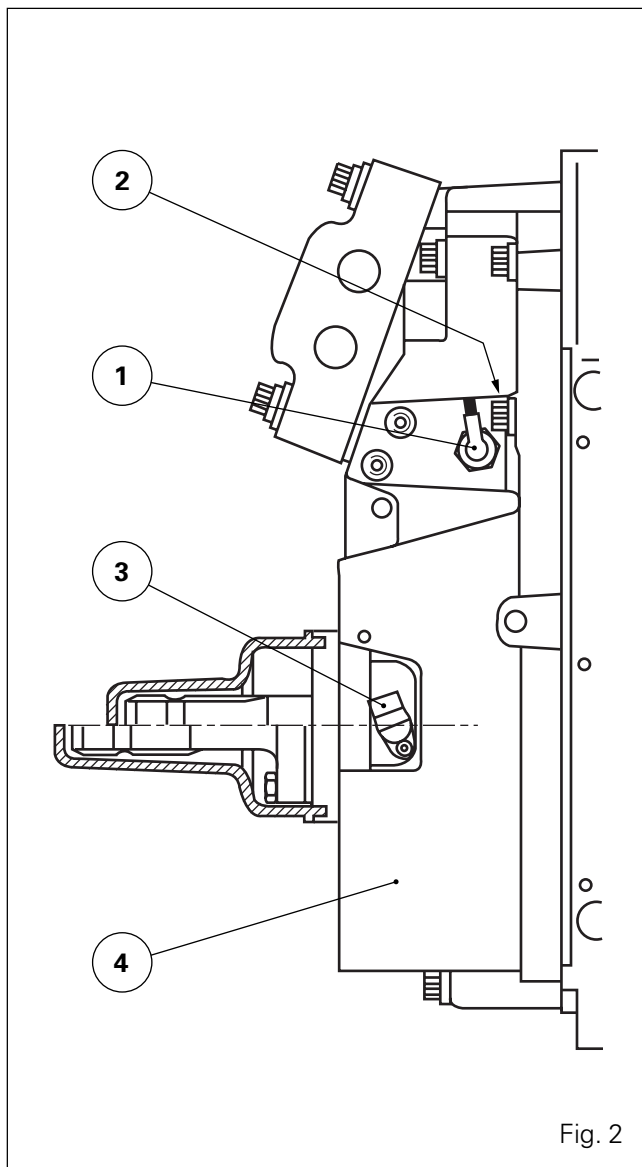

Fig. 2
4. Disconnect PTO sensors (1) and (3) (Fig. 2) on the driving gear and the output shaft.
6. On housing (4), remove two diametrically opposite screws (2) (Fig. 2), and replace with two guide studs of sufficient length (230 mm approximately) (local manufacture).